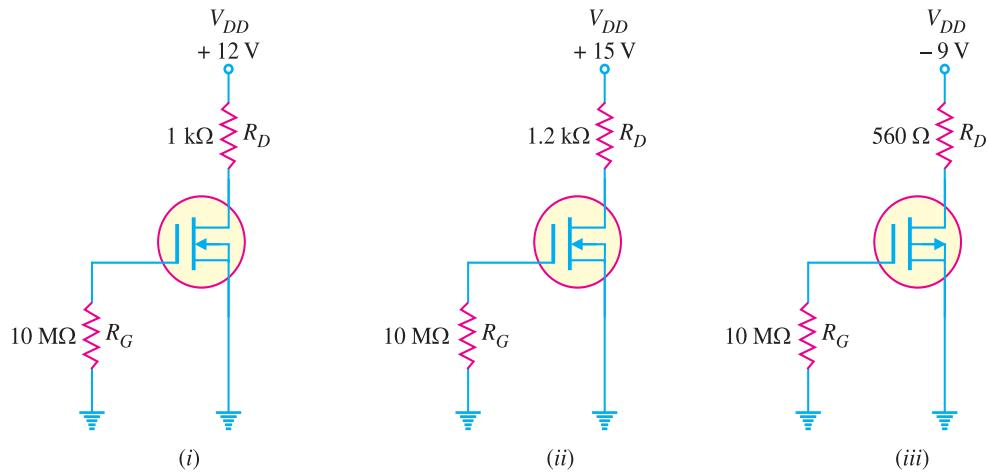

Fig. 19.67
9. Determine  $V_{DS}$  for each circuit in Fig. 19.67. Given  $I_{DSS} = 8 \text{ mA}$ . [(i) 4V (ii) 5.4V (iii) -4.52V]